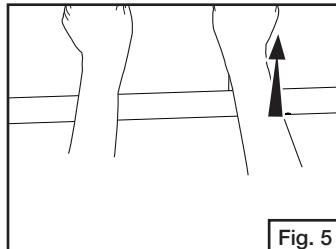
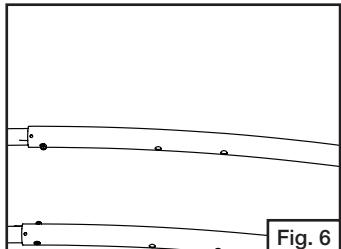

Fig. 5
Fig. 6
- Telescope the extending tubes to the towing handle. Press buttons on towing handle and push in until they lock into place. (Fig. 5 and Fig. 6)